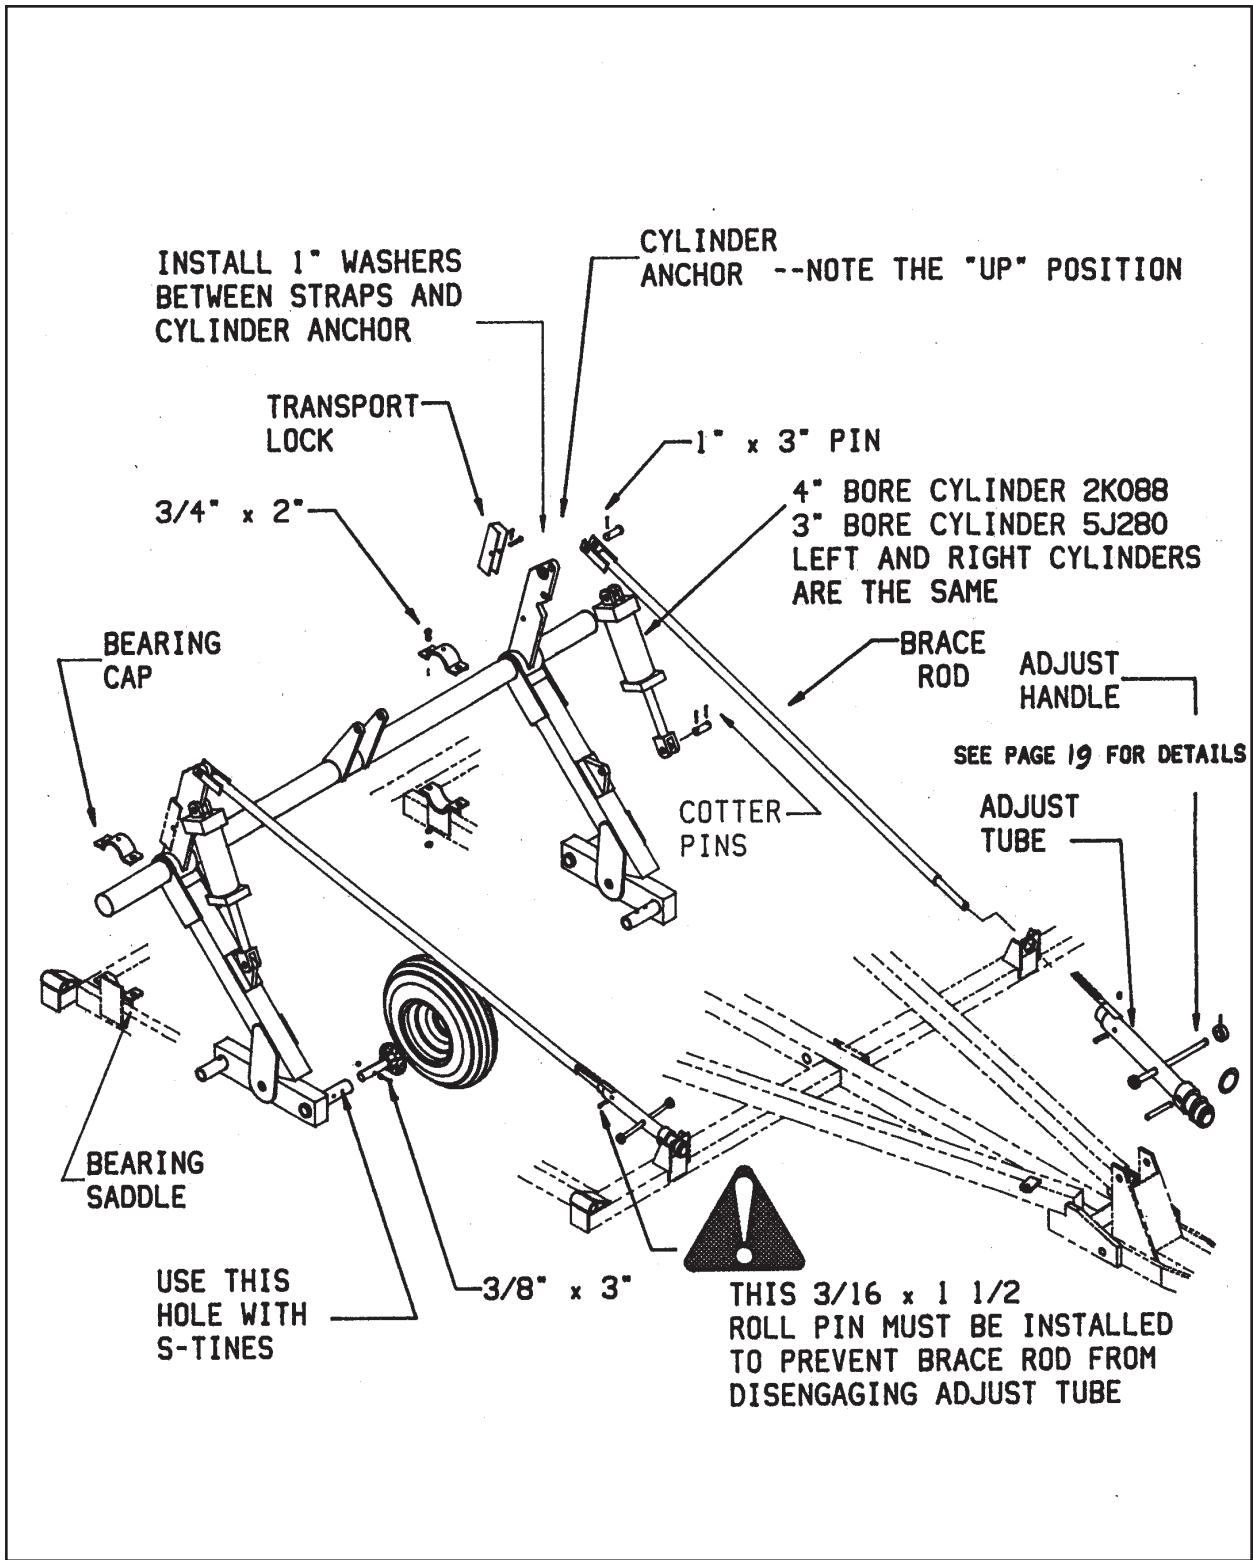

FIGURE 10
- B. **Loosely** bolt the halves together with (4) 5/8 x 1 1/2" long capscrews, lockwashers, and nuts on the rear side plate, and (3) 3/4 x 2" long capscrews, lockwashers, and nuts at the front plates. The heads of the bolts must be to the inside of the drawbar as shown.
- C. Attach the plates of the left frame with (6) 5/8 x 4 11/16 x 5 1/2" deep U-bolts, lockwashers, and nuts. **DO NOT TIGHTEN UNTIL AXLE IS IN PLACE.**
- A. Mount (4) **9.5L-15,8 ply** tires on the **15 x 8LB** rims and attach to the hubs of the center rockshaft.
- C. Apply some grease to the bearing saddles on the frames, and lower the center rockshaft and wheels into the bearings. The cylinder anchors must be in the "up" position shown in figure 10 when positioning the rockshaft.
- D. Apply some grease to (4) bearing caps and use them to trap the rockshaft in place. Secure with (8) 3/4 x 2" long capscrews, lockwashers, and nuts. **TIGHTEN THESE BOLTS THEN TIGHTEN ALL FRAME HARDWARE.**